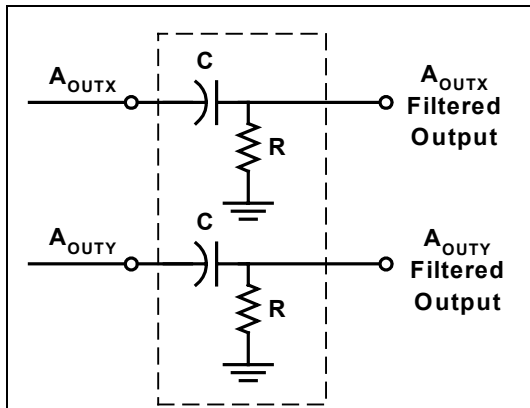

Figure 3: High Pass Filter
**AC Coupling:** For applications where only dynamic accelerations (vibration) are to be measured, it is recommended to ac couple the accelerometer output as shown in Figure 3. The advantage of ac coupling is that zero g offset variations from part to part and zero g offset change over temperature can be eliminated. Figure 3 is a HFP (high pass filter) with a  $-3dB$  breakpoint given by the equation:  $f = \frac{1}{2\pi RC}$ . In many applications it may be